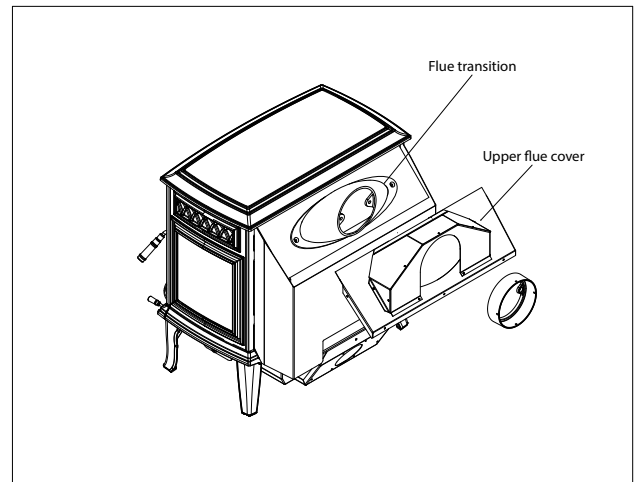

Figure 18.2
2. Remove 1 bolt from each side of the flue transition and retrieve nuts attached to bolts (**Figure 18.2**).
5. Reattach convection chamber top to flue collar to appliance (**Figure 18.2**).